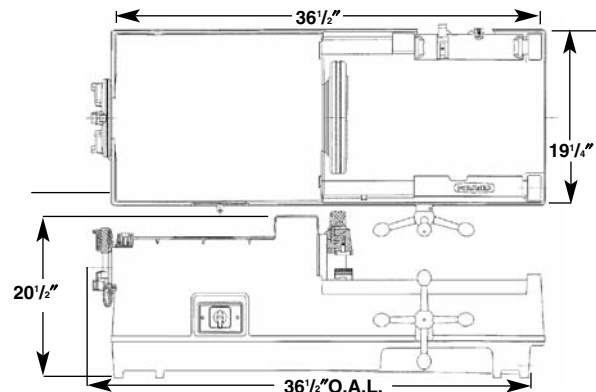

Figure 2 – No. 535 Machine Dimensions
1. If a stand is not used, the machine should be mounted to a stable bench. To mount the unit on a bench, use four (4) 5/16" bolts in holes provided at each corner of machine base. Base dimensions are shown in Figure 2.